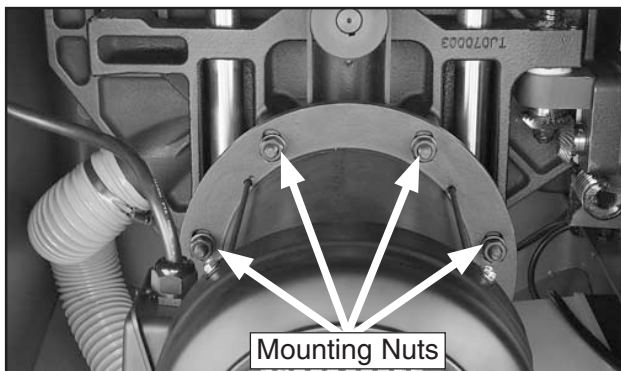
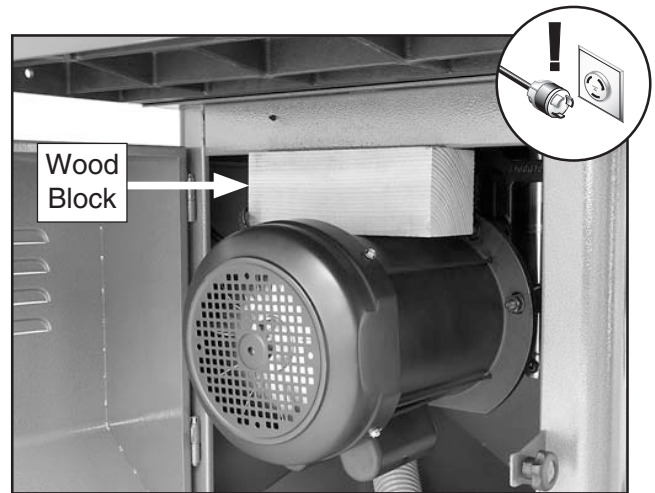

Figure 148. Motor mounting nuts.
Figure 149. Example of using wood block to tension belt.
3. Loosen the four motor mounting hex nuts shown in **Figure 148** two turns, then place the 4x4 wood block on top of the motor, as shown in **Figure 149**.
3. Loosen the four motor mounting hex nuts (**Figure 148**) two turns, and place the 2x6 block between the cabinet and bottom of the motor, as shown in **Figure 151**.